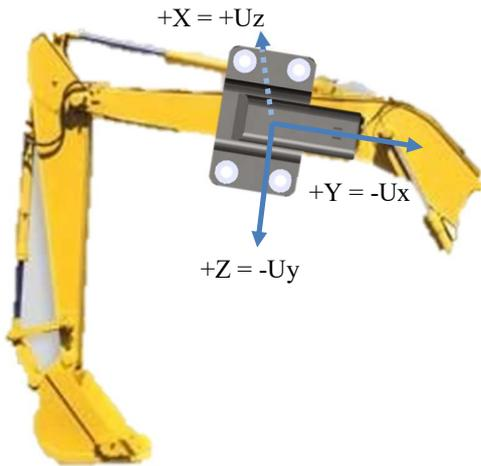

Figure 3: Boom Mounting Application
**Example 2:** Boom Orientation Monitoring with mounting as depicted in Figure 3.